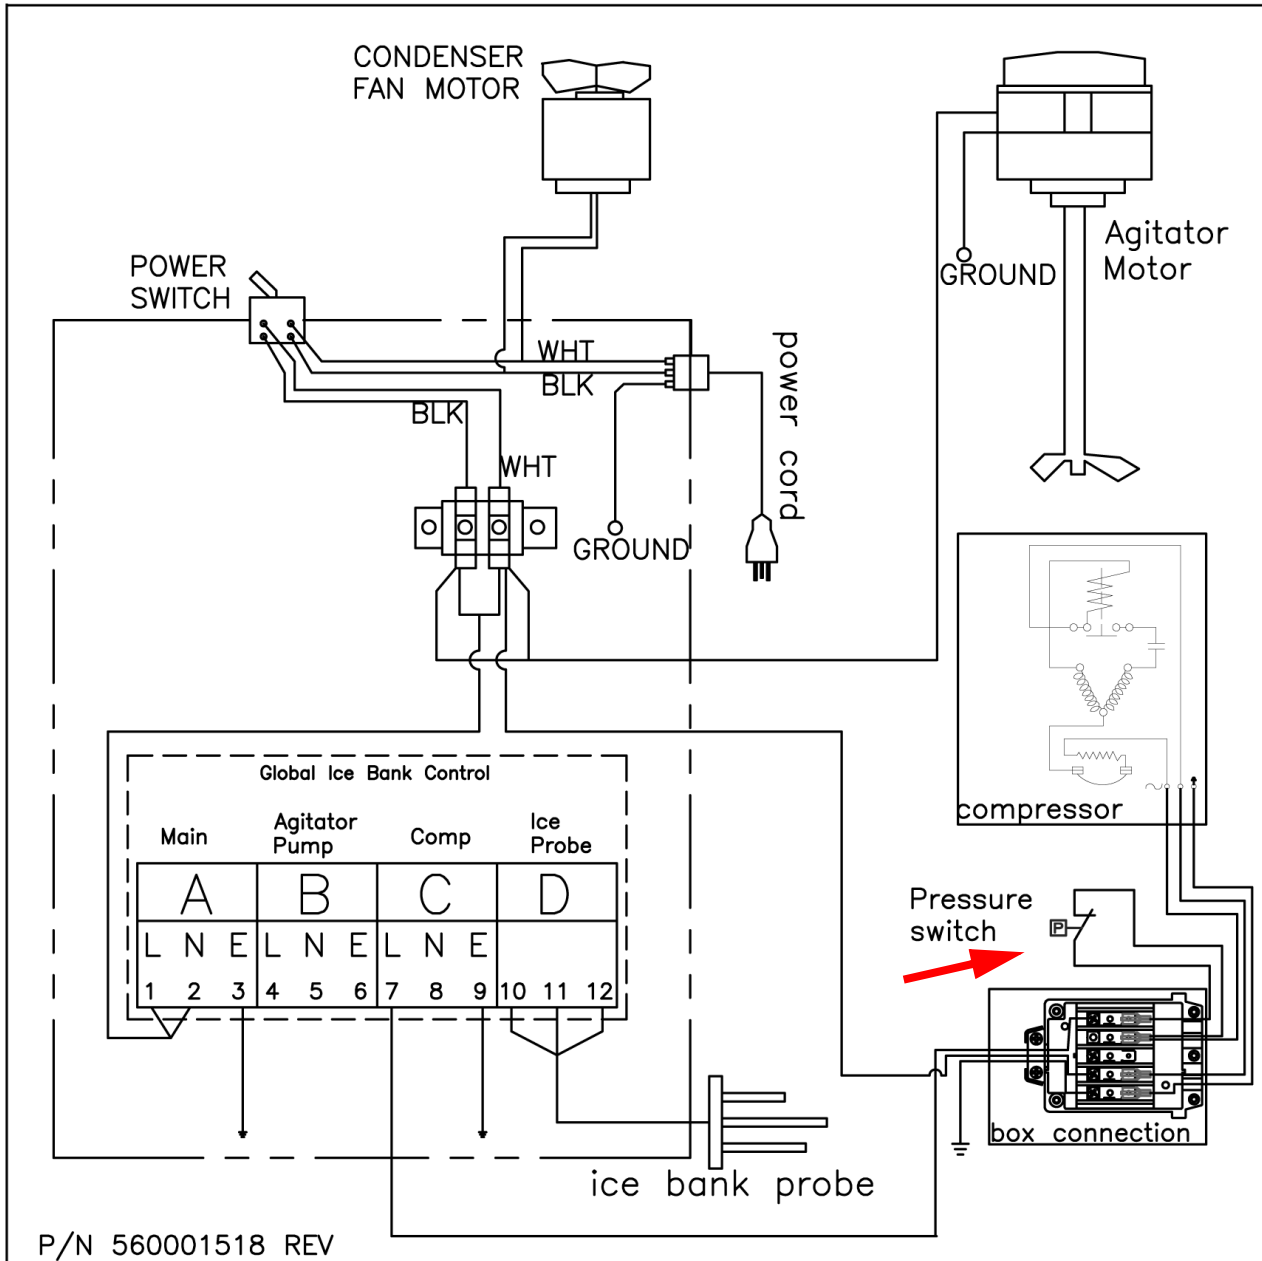

Figure 38
4	Disconnect the two (2) condenser-fan wires from the electrical box terminals (Figs. 38 & 39). Note the wire routing.